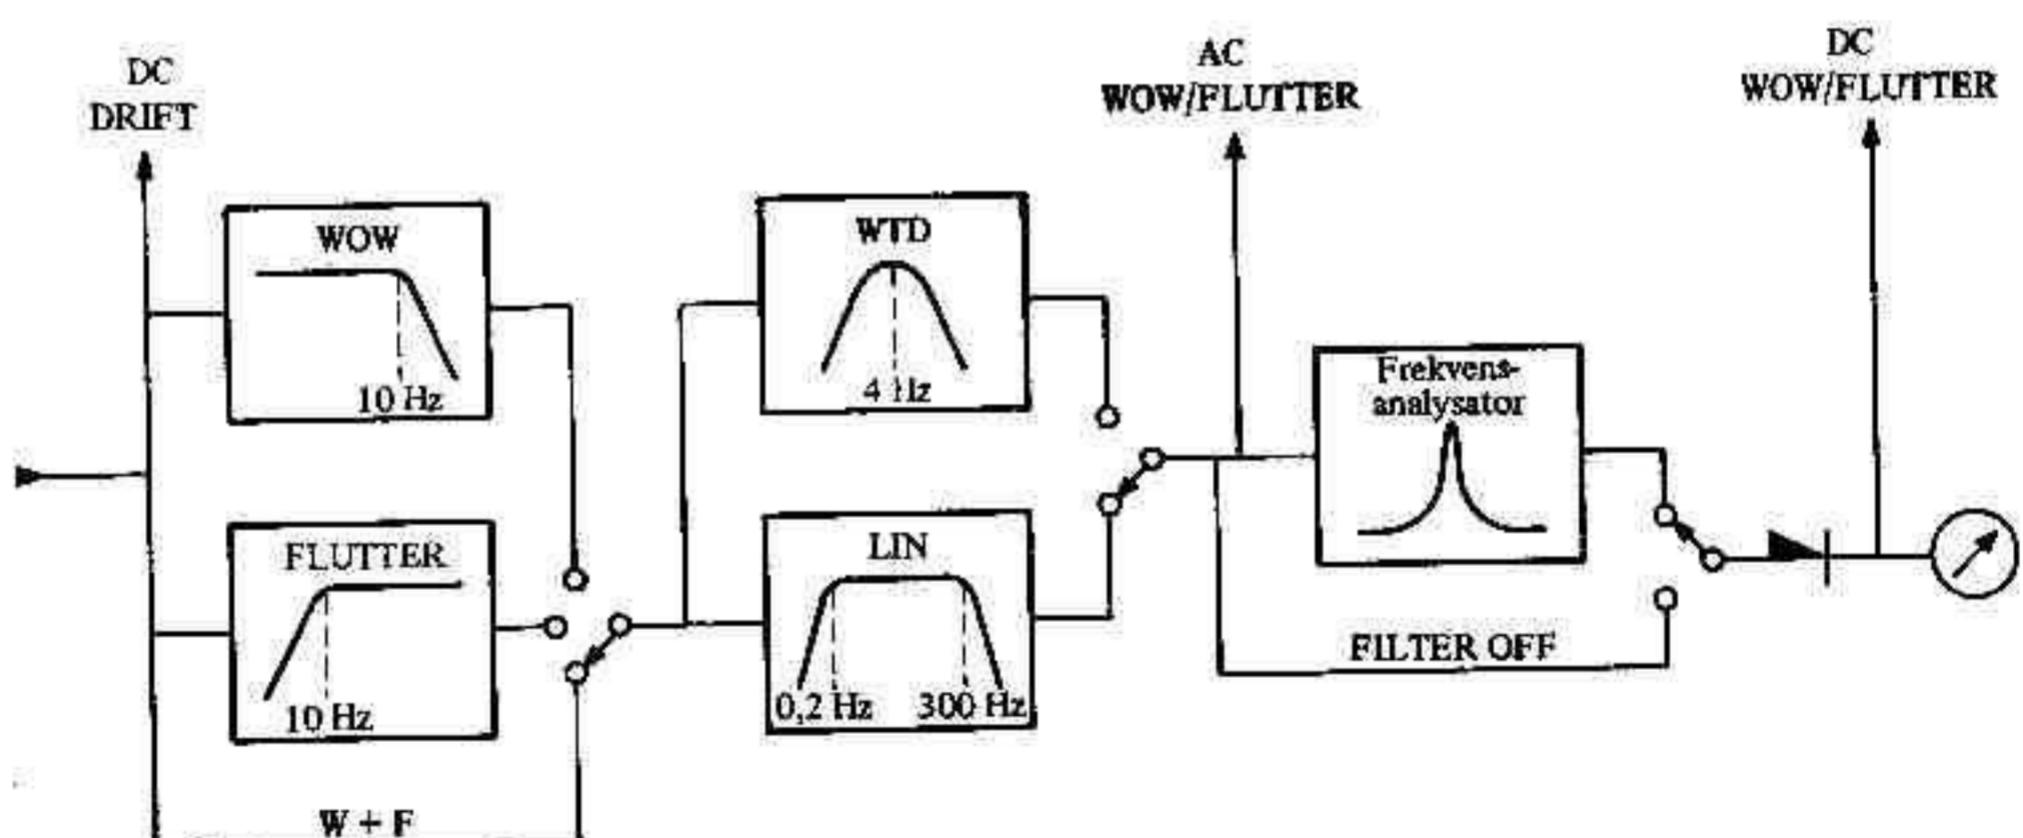

Fig. 6. Block diagram of the filter section of the WM1.
The WM1 incorporates a number of filters specially intended for such analysis of the wow and flutter spectrum (Fig. 6).
### Monitor Outputs (Fig. 6)
1. The DC DRIFT output voltage is analogous to the DRIFT meter (3) deflection and is equal to  $\pm 1$  V DC at full scale.
2. The AC WOW/FLUTTER output voltage is analogous to the FLUTTER meter (6) deflection and identical to the wow and flutter signal before the frequency analyser (see Fig. 6). The **WOW**, **FLUTTER**, **WTD** and **LIN** filters may thus be employed in conjunction with this output. For sine-wave modulated wow and flutter the output voltage is equal to 1 VAC at full scale.